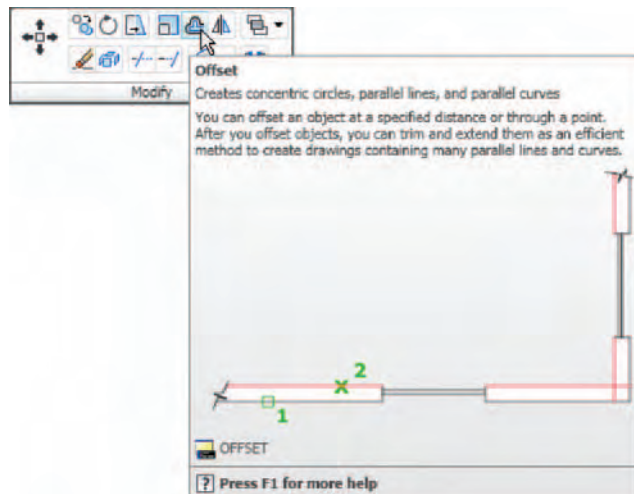

Fig. 5.12 The **Offset** tool from the **Home/Modify** panel
2. Call the **Offset** tool – *left-click* its tool icon in the **Home/Modify** panel (Fig. 5.12), *pick* the tool from the **Modify** toolbar, *pick* the tool name in the **Modify** drop-down menu, or *enter o* or *offset* at the command line. The command line shows: